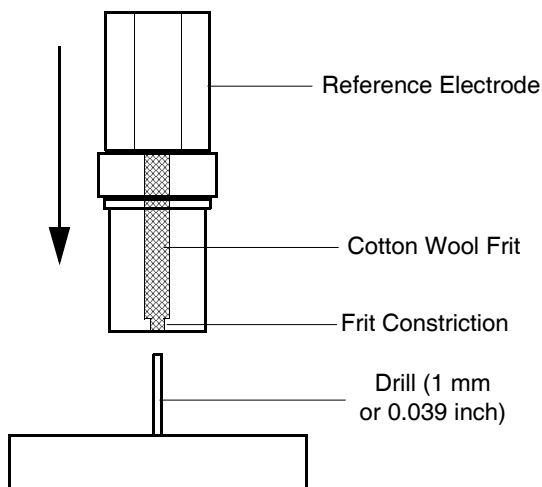

Figure 4-9 Removing the Cotton Wool Frit
2. Use a clean drill of 1 mm (0.039 inch) to push out the frit from the outside (Figure 4-9). Be careful not to damage the frit constriction.